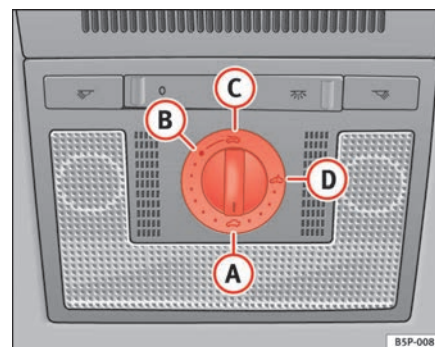

Fig. 70 Roof lining
- Turn the rotary button to position **A** ⇒ page 108, fig. 70 ⇒ .